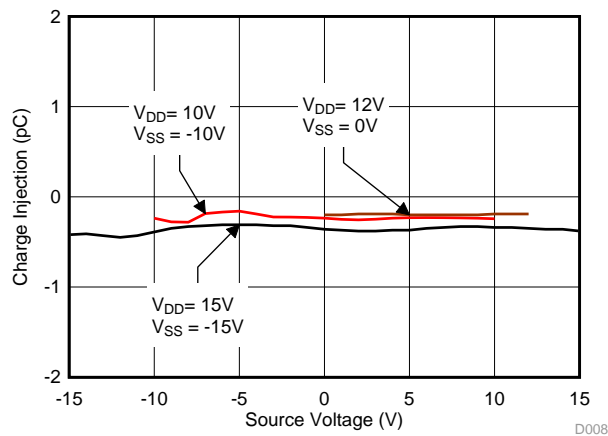

Figure 31. Source-to-Drain Charge Injection vs Source Voltage
The TMUX6119 utilizes special charge-injection cancellation circuitry that reduces the source (S_x) to drain (D) charge injection to as low as -0.35 pC at $V_S = 0$ V, and -0.41 pC in the full signal range, as shown in Figure 31.